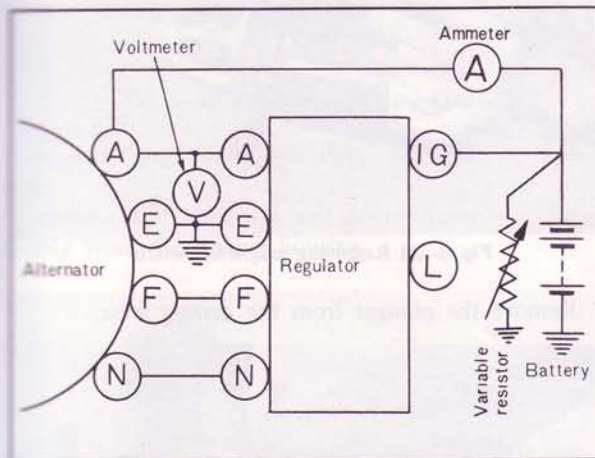

Fig. 5-26 Checking constant voltage relay
To check, use an almost fully charged battery and connect a voltmeter between the (A) and (E) terminals of the regulator, as shown in Fig. 5-26.